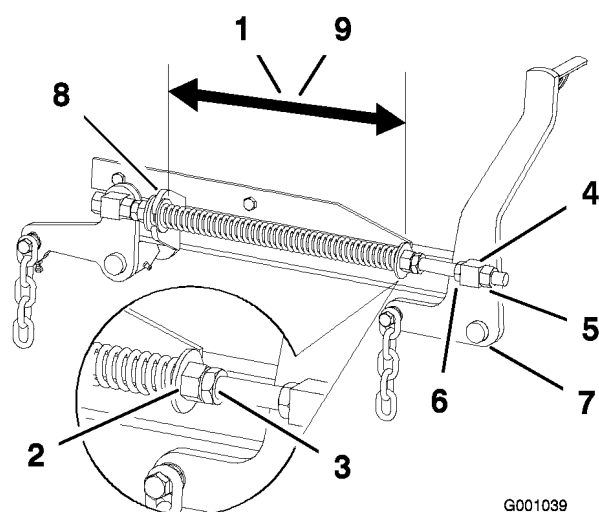

Figure 74
2. Check the distance between the two large washers, it needs to be 11-1/8 inches (28.2 cm) for 52 inch mower decks and 10-1/2 inches (26.7 cm) for 60 inch mower decks (Figure 74).
3. Adjust this distance, by loosening the spring jam nut and turning the nut in front of each spring (Figure 74). Turning the nut clockwise will shorten the spring; counter-clockwise will lengthen the spring.
4. Lock the nut into position by tightening the spring jam nut (Figure 74).